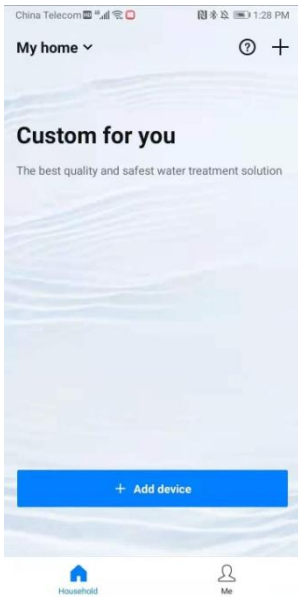

Figure 2-1
④ In Figure 2-1, click "Add device", enter to Figure 2-2 interface. Follow the instruction, disconnect the power and reconnect it manually. Press and hold " " button until hear a buzzer "Di". Press "Next" after 5 seconds. Then enter to Figure 2-3 interface. Input the Wi-Fi password, click "Connect to Wi-Fi" and wait for configuration. After configuration successfully, you can perform related operations such as device addition, name modification, saving data, etc.